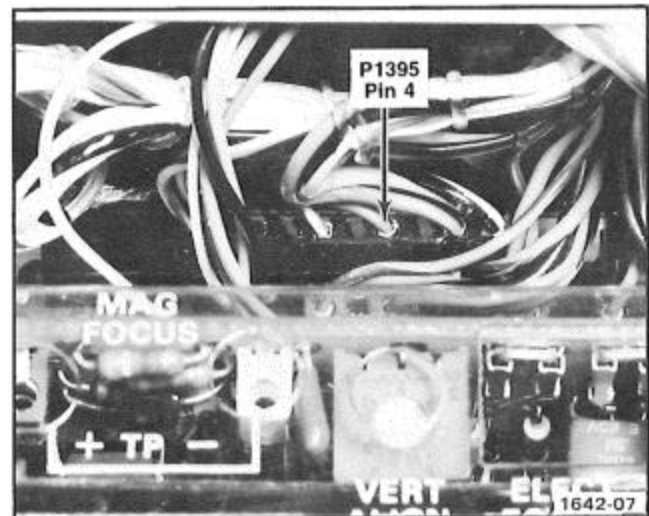

Fig. 5-2. Location of $+265\text{ V}$ test point.
- h. Move the positive meter lead to pin 4 of plug P1395 on the Interface Circuit board. See Fig. 5-2.